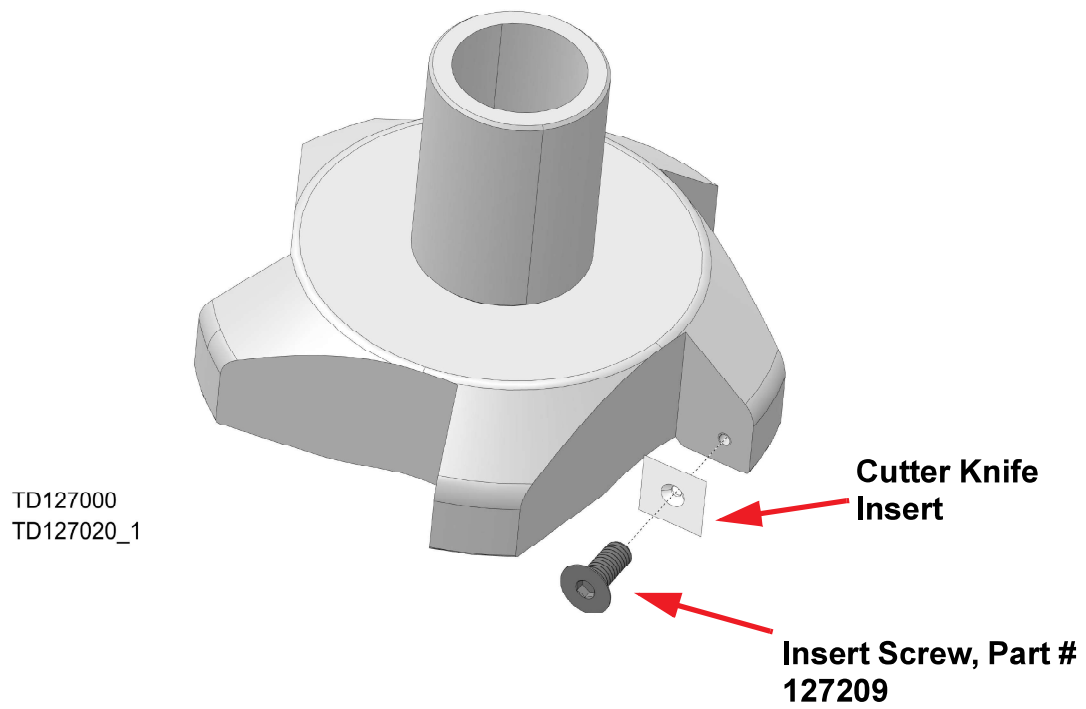

FIG. 6-2
1. Replace Cutter inserts as needed by removing the Insert Screw (Part 127209) using the provided T20 T-Handle wrench as shown in Figure 6-2. Place in the new insert.